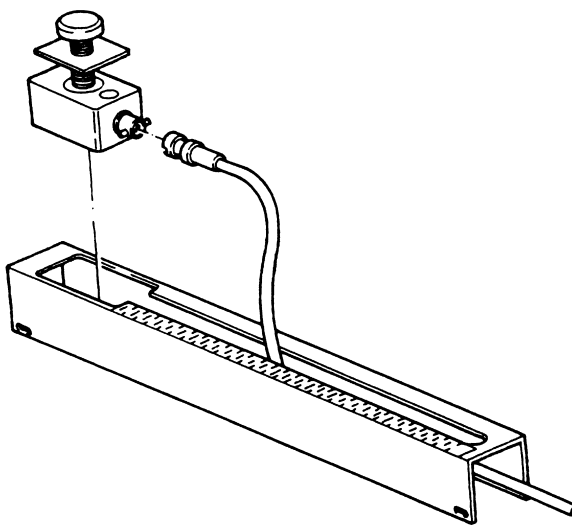

Fig. C.4 : Position of transducer and cable
- 4 Connect each transducer to a coax cable and slide the transducers into the rails (fig. C.4.) While inserting the transducers, care must be taken not to touch the pipe wall with the transducers before the proper position is obtained, otherwise the coupling grease will be wiped off the transducers and the result will be a bad sonic coupling between the transducers and the pipe wall.